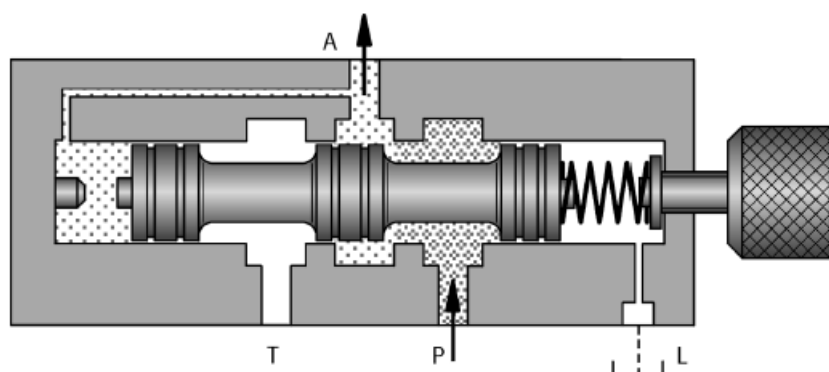

FIG 5.
- B. However, an increase in pressure above that which has been set at output (A) causes a further shift of the piston. ***The built-in pressure relief function comes into force and opens a passage from A to T.*** (Fig 5)